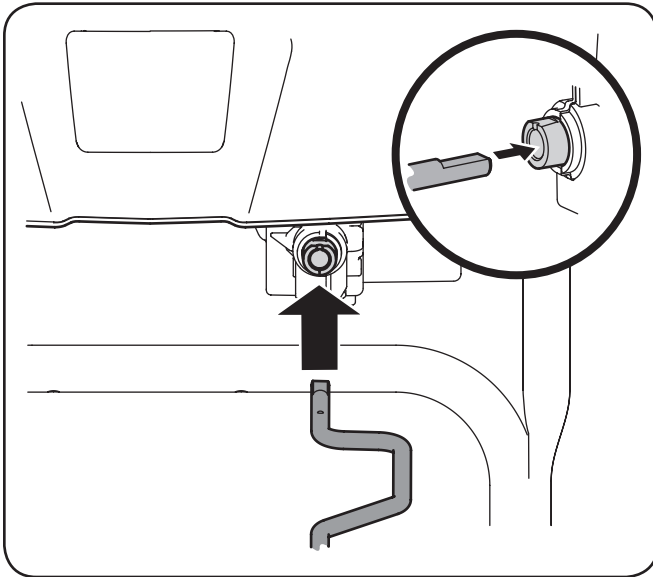

Figure 3-8
5. Insert the other end of the chute control rod into the coupler below the handle panel. Make sure to line up the flat end of the rod and the flat end of the coupler. You may need to rotate the rod around until these two surfaces line up. See Figure 3-8 inset.